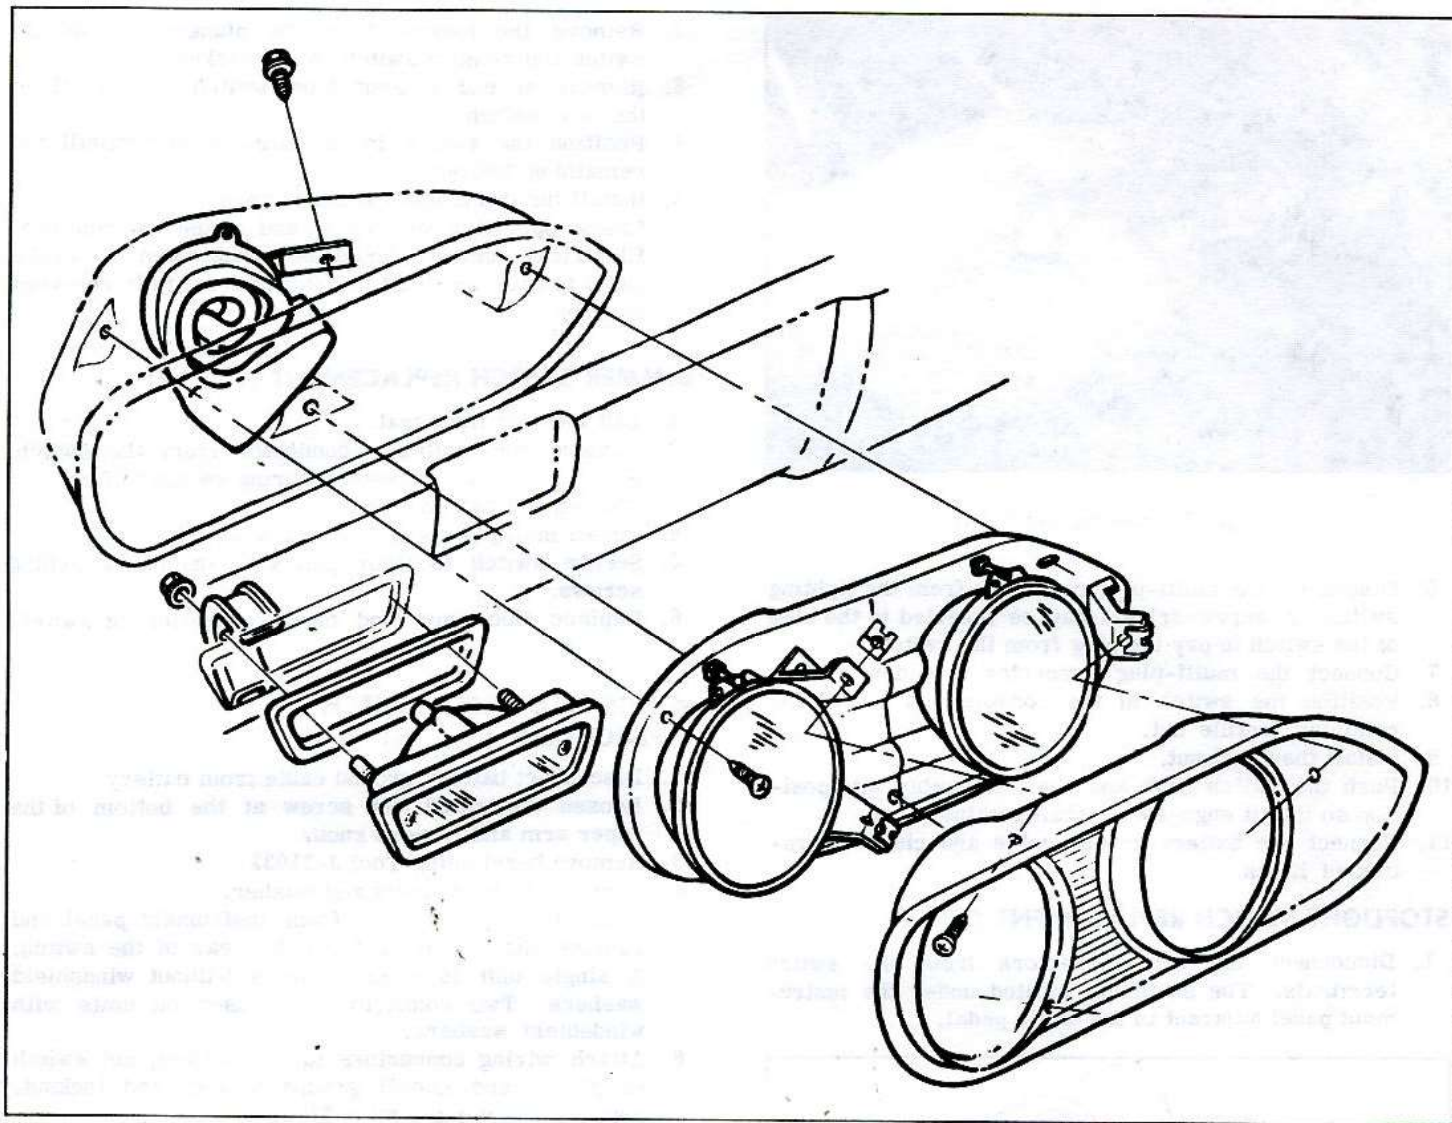

Fig. 9—Headlamp, Parking Lamp and Horn Assemblies
1. Remove headlamp bezel retaining screws and bezel (fig. 9).
PARKING LAMP SERVICE (Fig. 9)